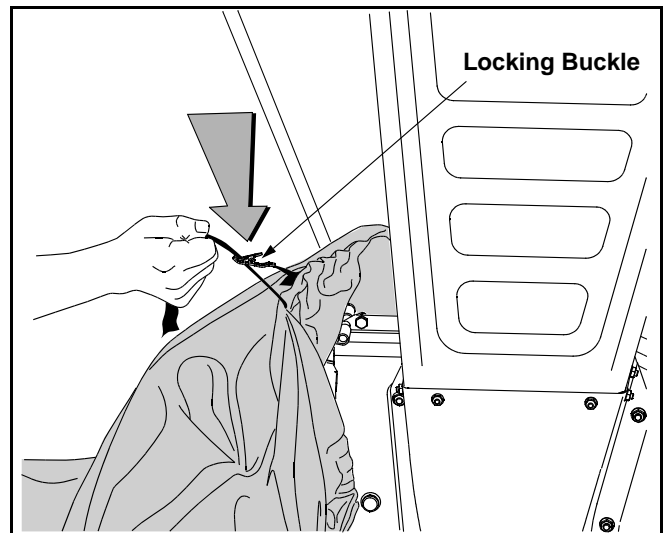

Figure 6
- Squeeze the locking buckle release the bag's drawstrap before loosening it from the chute deflector. See Figure 6.